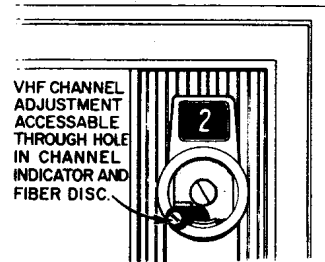

Figure 24. Front View of Escutcheon in All Chassis Sets Son-R Models. Channel Knob Removed.
- Turn Fine Tuning knob to the left or right until channel slug becomes visible through lower left hole in channel indicator disc and hole in fiber disc in front of tuner; see figure 24. Note: It may be necessary to move channel indicator disc slightly to left or right for making channel slug visible.